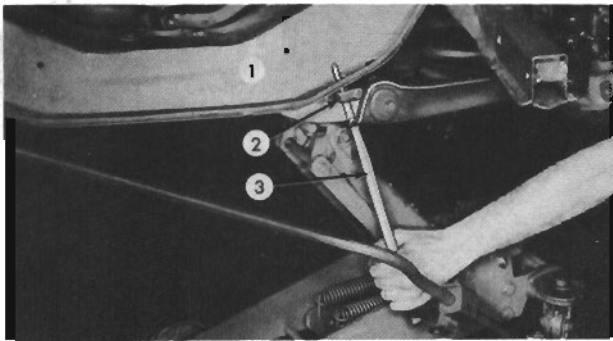

FIG. 7
Slowly raise the jack, lifting the inner end of the control arm and compressing the spring. As the inner shaft nears the crossmember (1, Fig. 7), align the holes of the inner shaft (2) and the holes in the flange of the crossmember with a drift (3); then continue to lift the inner shaft. With the inner shaft held in position at the crossmember by the jack, install the four retaining bolts and nuts, and tighten securely.